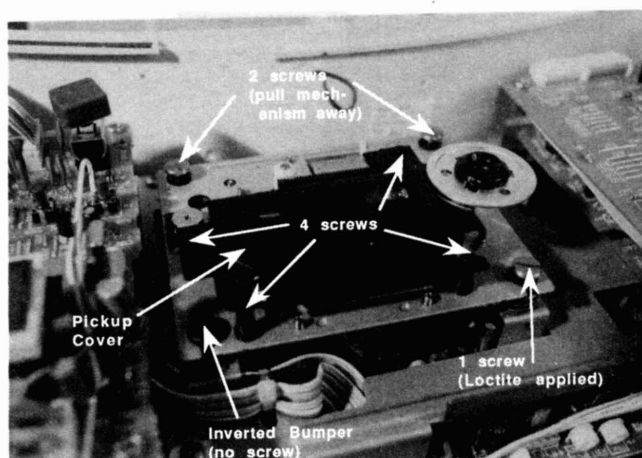

Figure 6
18. CD Mechanism Removal (Figures 6 and 7)
A. Remove 1 screw. Refer to note above. (Figure 6).
B. Pull the mechanism slowly away from 2 screws. Exercise care when sliding the mechanism out. These screws are delicate. (Figure 6).
19. CD Mechanism Replacement (Figures 6 and 7)
D. Remove the 4 screws which secure the black pickup cover. Re-install the cover on the new CD mechanism (Figure 6).
E. Remove the 2 rubber bumpers from the old mechanism and re-install on the new mechanism. One bumper is **inverted** (Figure 6).
20. CD Mechanism Installation (Figure 6)
G. Slide the mechanism into place under the 2 intact screws (Figure 6).
H. Apply **Loctite 290** to the threads of the 1 remaining screw. After waiting an appropriate period (see **Loctite** application instructions for duration), re-install the screw (Figure 6).